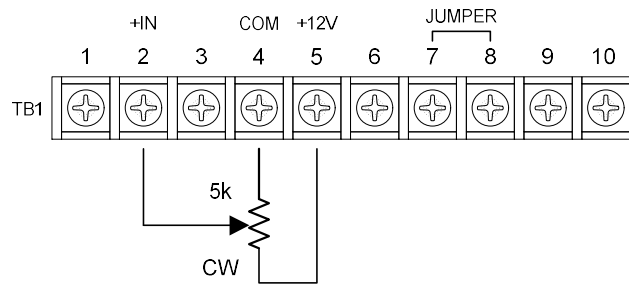

Figure 3.3 Remote Control with a Potentiometer
- With the power to the SHZF1 turned off, connect the potentiometer as shown in Figure 3.3. The CW position is the full power output position. Terminal TB1-5 is internally connected to a positive dc voltage source.